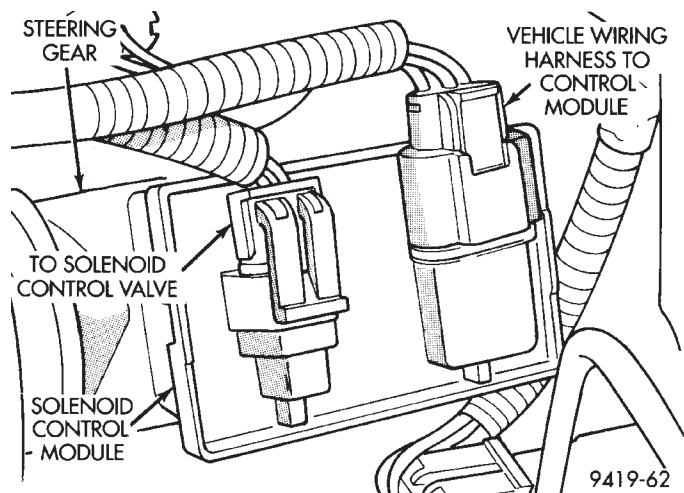

Fig. 3 Wiring Harness Connections To Solenoid Control Module
(1) Remove the wiring harness connectors (Fig. 3) from the solenoid control module.
(2) Connect wiring harness connectors onto solenoid control module (Fig. 3). **Be sure wiring harness connector seals are on connectors and in good condition before installing connectors on control module.**